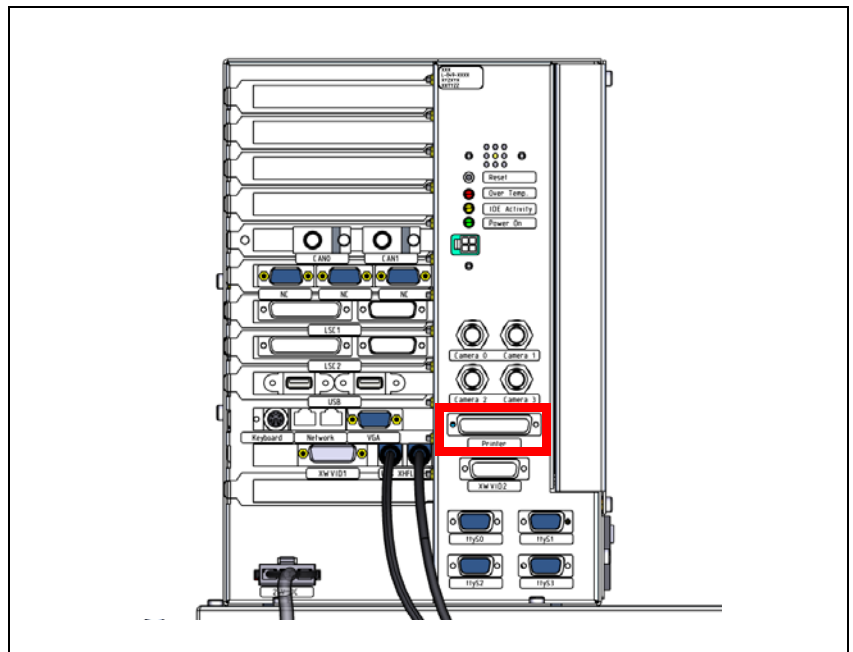

Figure 14-2. Printer connection.
6. The machine is connected to the printer via the DSUB connector, located in the front of the CB3 (Computer Box 3). See Figure 14-2.